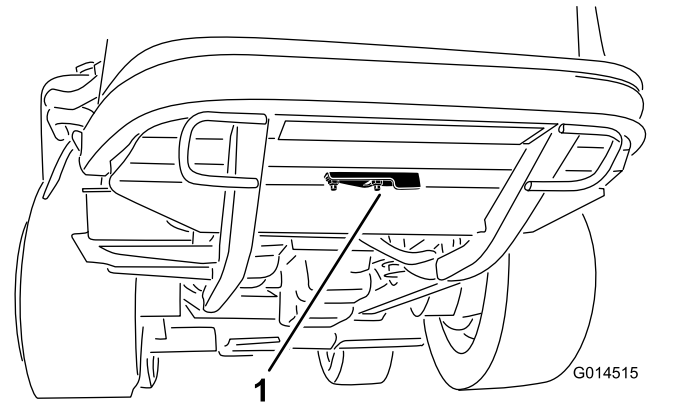

Figure 83
2. Loosen the flange nut securing the clean-out cover to the underside of the rear frame (Figure 83). Rotate the cover to the side to expose the clean-out hole in the frame.